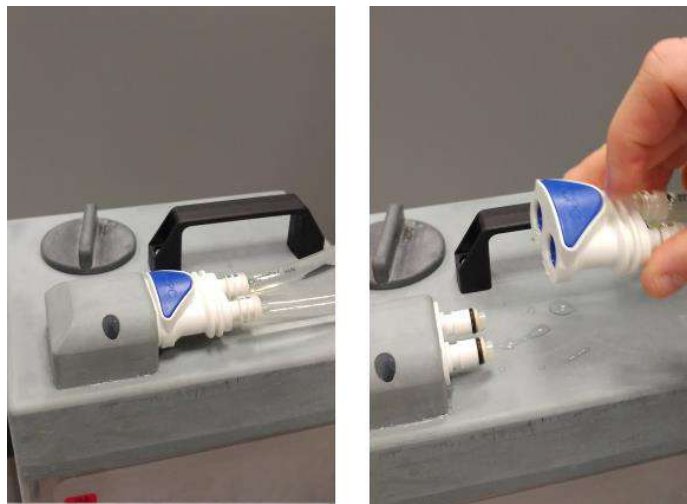

Figure 12-3
Step5. Disconnect the pipes. see **Figure 12-3**.
- Step11. Make sure that the water system hose is connected to the Front End. See **Figure 12-3**